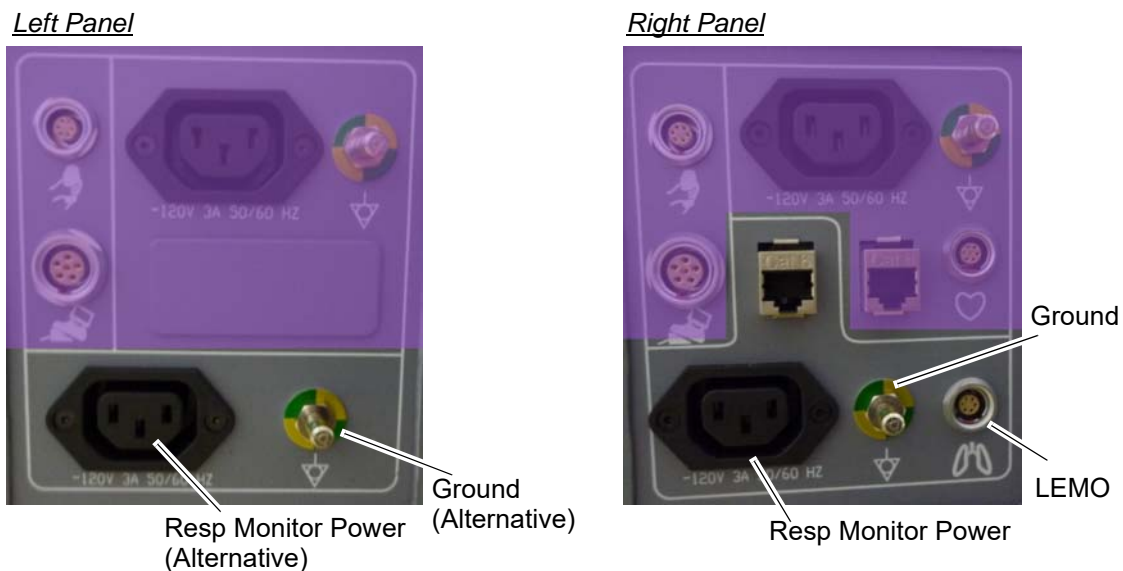

Figure 2-39 Option Interface Panel
- 1.) Power outlet, ground and LEMO connector for the Respiratory Monitor are provided as shown in Figure 2-39.